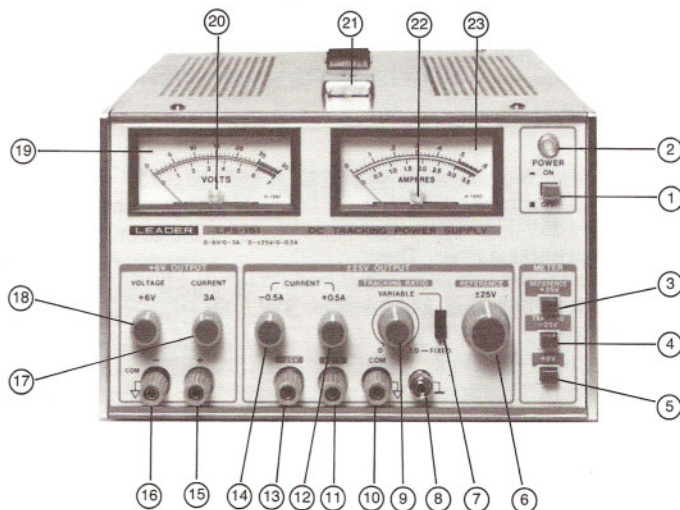

Figure 4-1. Front Panel
**Front Panel.** Refer to Figure 4-1.